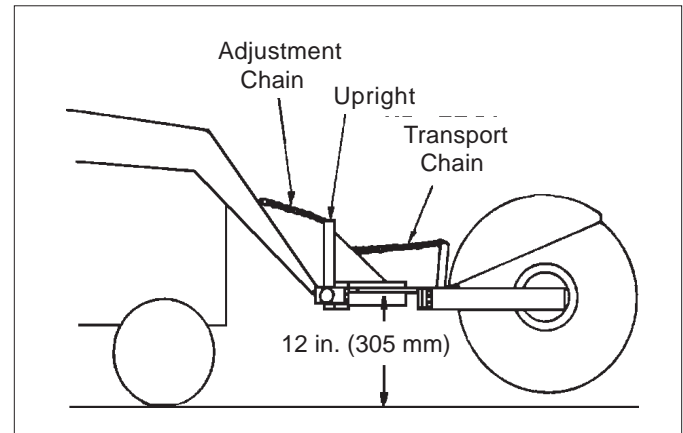

figure 1
3. Adjust the height of the mounting/swing assembly so that between the ground and the center of the brush frame there are 12 in. (305mm) (figure 1). Contact your dealer for cylinder stops.
5. Raise the brush head assembly and adjust the transport chain (figure 1) to hold the bristle tips 2 inches (51mm) off the ground.
- If the measurements are not equal, adjust the mounting assembly upright. For measurements that resemble figure 3, put more slack in the adjustment chain (figure 1), allowing the upright to angle forward slightly. For measurements that resemble figure 4, take slack from the adjustment chain, pulling the upright back. For measurements similar to figure 5, loosen bolts holding the brush head to the swing assembly and move the low end up in the slots.